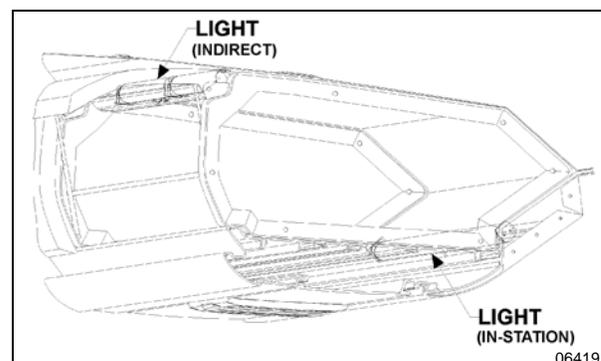

FIGURE 70: PARCEL RACK
3. Lift the hinged cover and replace the two retaining screws (FIGURE 70).